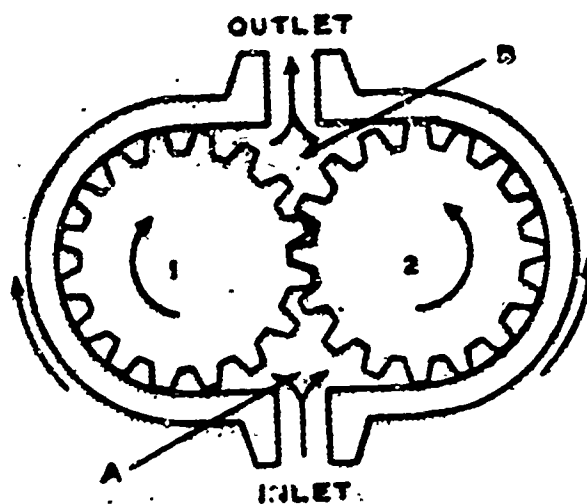

Fig. 1 Rotary spur type pump
The rotary gear pump, the spur type pump shown in Figure 1, is the type used in the Allison transmissions. This pump may have two or more rotating gears (for two different functions) within the pump housing, but the operating principle is the same for all. These pumps start displacing fluid as soon as the gears start rotating. Oil trapped in between the gear teeth and the housing is carried from the suction side of the pump to the discharge side of the pump. Oil from the discharge side is prevented from returning to the intake side by the close meshing of the two gears, and by the small clearances present between the gears and housing.
OPERATION -- In Figure 1, the pump consists of a drive gear (1) and a driven gear (2) enclosed in a closely fitted housing. The gears rotate in opposite directions and mesh at a point in the housing between the inlet and outlet ports. As the teeth of the two gears separate, a partial vacuum is formed which draws liquid through the inlet port into chamber (A). Liquid in chamber (A) is then trapped between the teeth of the two gears and the housing so that it is carried through two separate paths around to chamber (B). As the teeth again mesh they produce a force which drives the liquid through the outlet port. The close mesh of the gear teeth serves to provide a seal between the inlet and outlet sides and to minimize slippage.